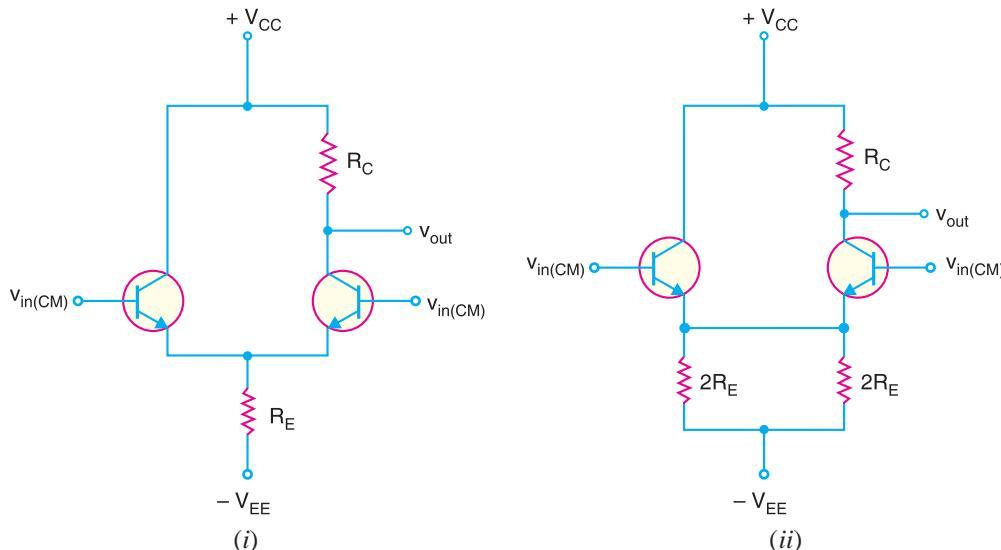
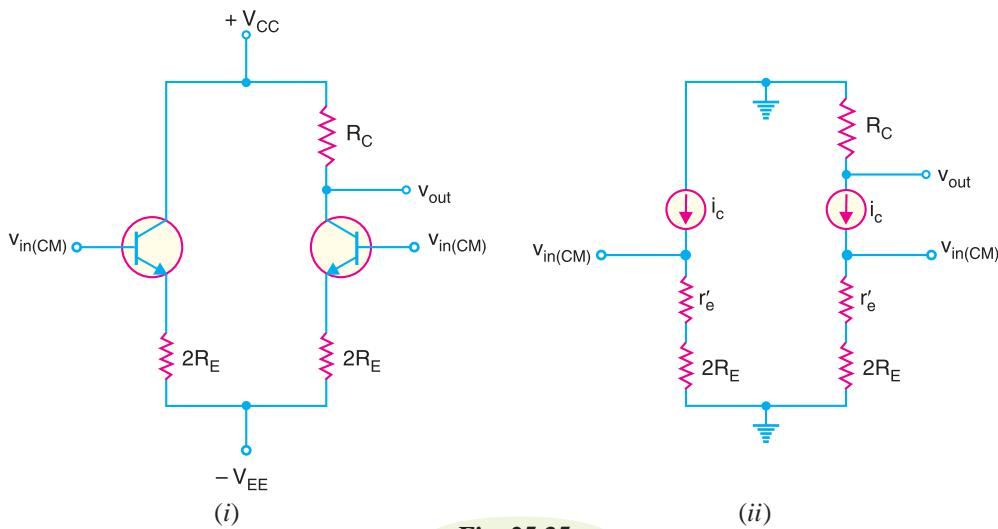

Fig. 25.34
Fig. 25.35
The common-mode signals are equal in amplitude and have the same phase. Fig. 25.34(i) shows the common-mode operation of a differential amplifier (DA). Note that the same input voltage, $v_{in(CM)}$ is being applied to each base. Ideally, there is no a.c. output voltage with a common-mode input signal. It is because a differential amplifier is designed to respond to *the difference between two input signals*. If there is no difference between the inputs, the output of DA is zero. In practice, the two halves of the differential amplifier are never completely balanced and there is a very small a.c. output voltage for the common-mode signal.
The circuit shown in Fig. 25.34(i) can be redrawn as shown in Fig. 25.34(ii). In this equivalent circuit, the two parallel resistances of $2 R_E$ produce an equivalent resistance of R_E . Therefore, this equivalent circuit will not affect the output voltage. Assuming identical transistors, the two emitter currents will be equal and produce the same voltage across emitter resistors. Therefore, there is no current through the wire between the emitters. We can remove this wire and the circuit becomes as shown in Fig. 25.35 (i).
A.C. equivalent circuit. To get the a.c. equivalent circuit, we can reduce both supply voltages to zero i.e., we ground each supply point. Replacing the transistors by their a.c. equivalent circuits, we get a.c. equivalent circuit of differential amplifier for common-mode operation as shown in Fig. 25.35 (ii). We can derive the voltage gain of an *unbypassed CE circuit. Here we will use $2 R_E$ in place of R_E .